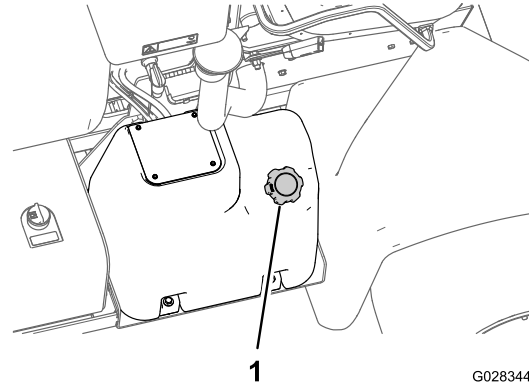

Figure 23
3. Clean the area around the fuel-tank cap (Figure 23).